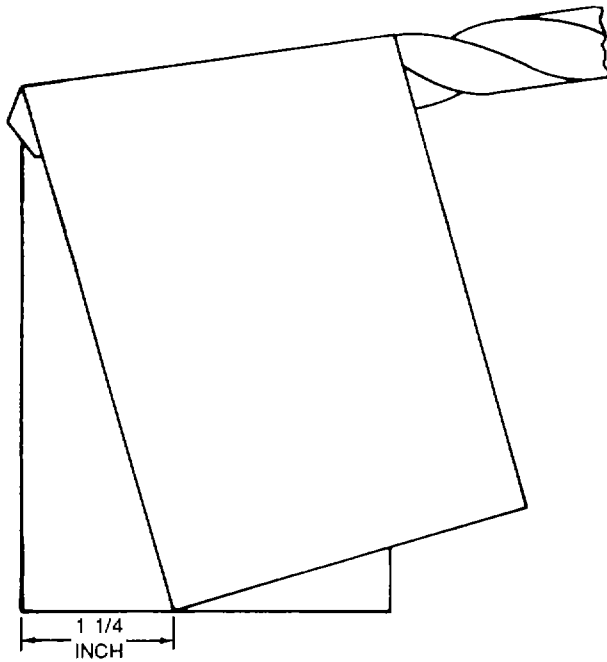

**Figure 4-89. Using Drill Grinding Gauge**
(3) *Testing angles.* Test the results of grinding with a drill grinding gauge to determine that the cutting edges are the same length and the angles are correct. This is shown in figure 4-89. To determine heel angle, proceed as follows: